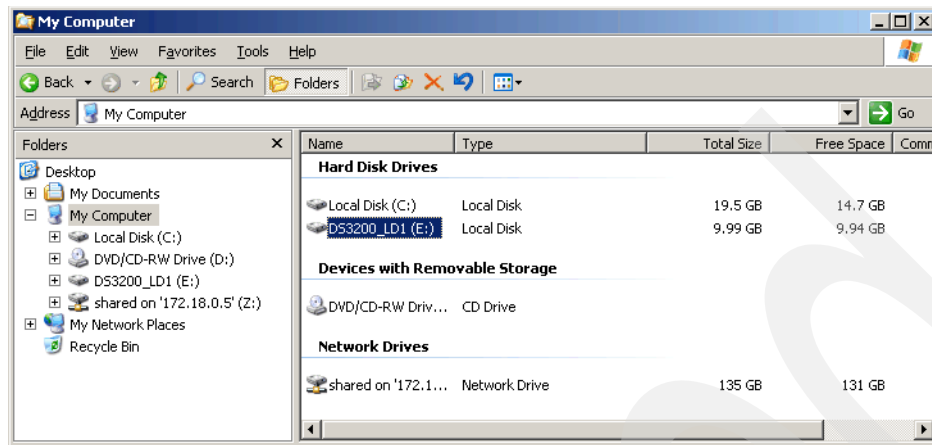

Figure 16-20 Logical drive is ready for use
4. We can now access the logical drive on the DS3200 as drive letter E:. We show this in Figure 16-20.